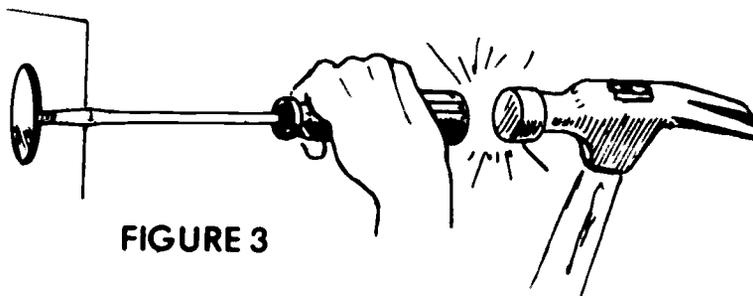

FIGURE 3
3. Hit screwdriver handle crisply with hammer (Figure 3)